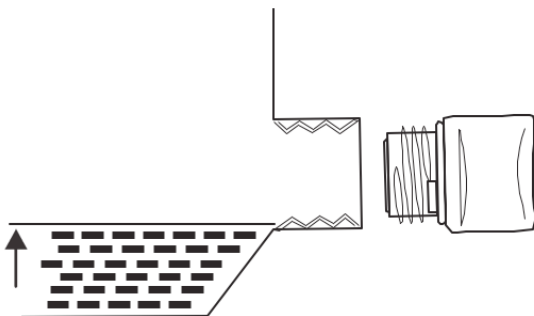

Figure 4: Engine Oil Correct Level
3. Using the supplied funnel and oil, pour the entire bottle of oil into the engine. See correct oil level in Figure 4 below.
- The engine is filled with engine oil (see Figure 4: *Engine Oil Correct Level*).